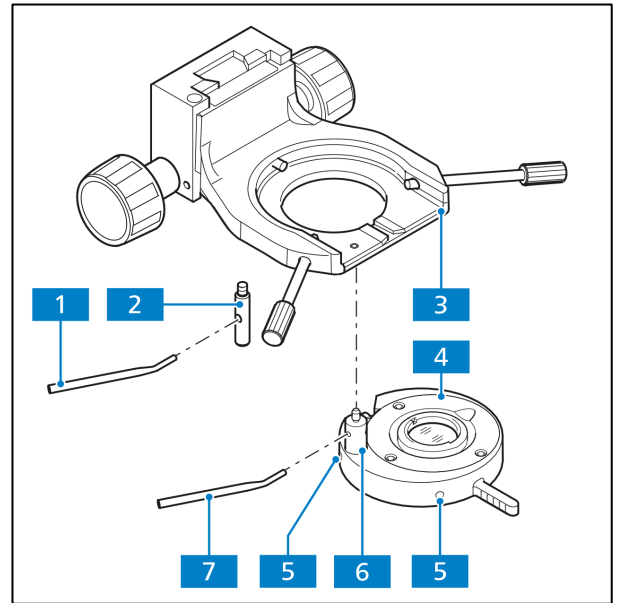

Fig. 3-47 Mounting the low-power system
- Hold the low-power system (Fig. 3-47/4) parallel to the bottom of the condenser carrier (Fig. 3-47/3) and screw the bracket bolt (Fig. 3-47/6) of the low-power system with the angled adjustment lever (Fig. 3-47/7) into the front threaded opening to the left below the condenser carrier (Fig. 3-47/3) until it stops.
- With the adjustment lever, (Fig. 3-47/1) screw the stop bolt (Fig. 3-47/2) into the rear threaded opening of the condenser barrier (Fig. 3-47/3) to the stop.
- Adjust both adjustment screws (Fig. 3-47/5) with the aid of two Allen wrenches (AF 1.5) until the field of view is well lit.